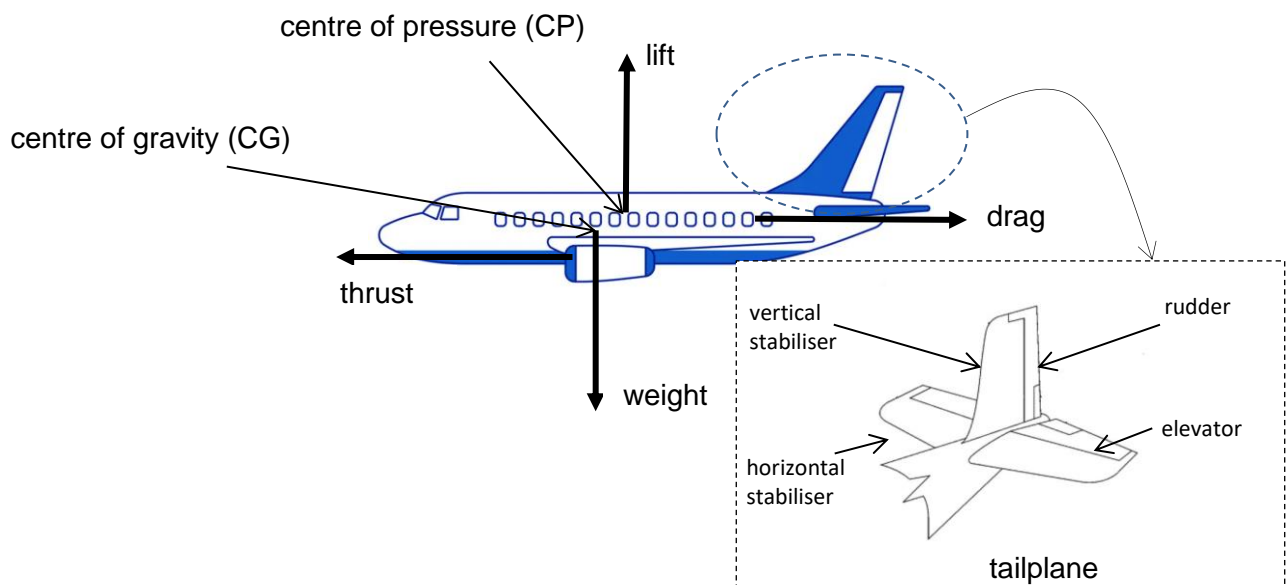

Fig. 7.1
Lift is the upward force on the aircraft acting perpendicular to the wing. While an aircraft's weight is concentrated at the centre of gravity (CG), the lift occurs at the centre of pressure (CP). In the design of aircraft, the CG is fixed forward of the CP as shown in Fig. 7.1 in order to retain flight equilibrium. The tailplane of the aircraft helps to maintain the stability of the aircraft. It consists of a horizontal stabiliser with a fixed wing section and an elevator which could be adjusted to produce a vertical force acting on the rear of the aircraft's body. The vertical stabilizer consists of a rudder which could be maneuvered to produce a force to adjust the sideways movements of the aircraft.
- (a) An aircraft travels in a straight, level flight with a constant velocity as shown in Fig. 7.1. The total weight of the aircraft is $1.5 \times 10^6 \text{ N}$, and the engines give it a forward thrust of $0.60 \times 10^6 \text{ N}$.
1. Fig. 7.1. Source : (<https://www.vectorstock.com/royalty-free-vector/aeroplane-side-view-vector-23448245>)